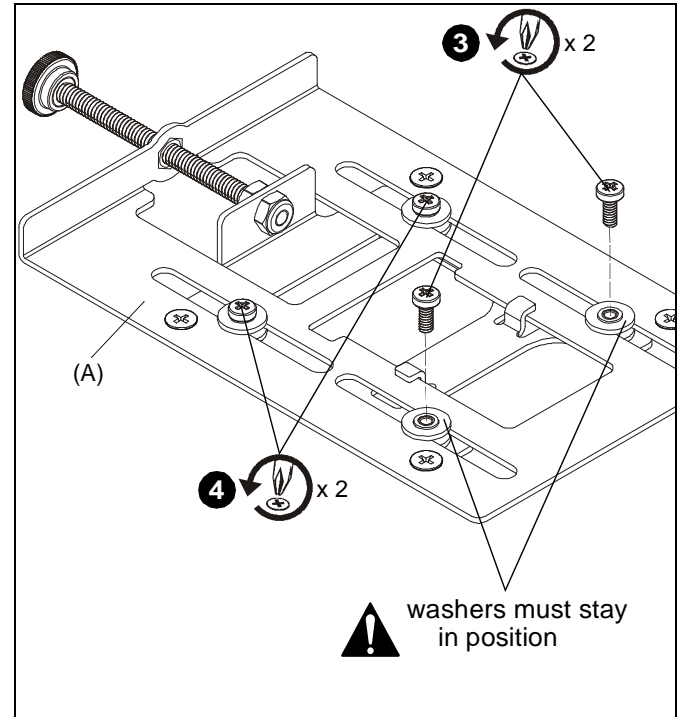

Figure 2
3. Remove lower two pre-installed Phillips screws from KRA235. Set screws aside for re-use. (See Figure 2)
IMPORTANT ! : Make sure washers under removed screws stay in position over mounting holes. (See Figure 2)
4. Loosen upper two pre-installed Phillips screws on KRA235. (See Figure 2)